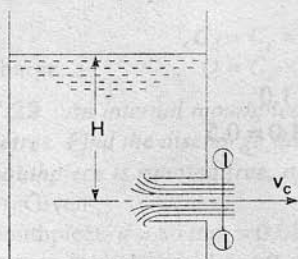
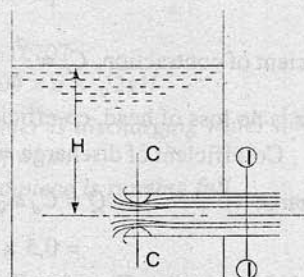

Fig. 7.16
Fig. 7.17
A short cylindrical tube attached to an orifice in such a way that the tube projects inwardly to a tank, is called an internal mouthpiece. It is also called Re-entrant or Borda's mouthpiece. If the length of the tube is equal to its diameter, the jet of liquid comes out from mouthpiece without touching the sides of the tube as shown in Fig. 7.16. The mouthpiece is known as *running free*. But if the length of the tube is about 3 times its diameter, the jet comes out with its diameter equal to the diameter of mouthpiece at outlet as shown in Fig. 7.17. The mouthpiece is said to be *running full*.
(i) Borda's Mouthpiece Running Free. Fig. 7.16 shows the Borda's mouthpiece running free.
Applying Bernoulli's equation to free surface of liquid and section (1)-(1) of (Fig. 7.16)
(ii) **Borda's Mouthpiece Running Full.** Fig. 7.17 shows Borda's mouthpiece running full.